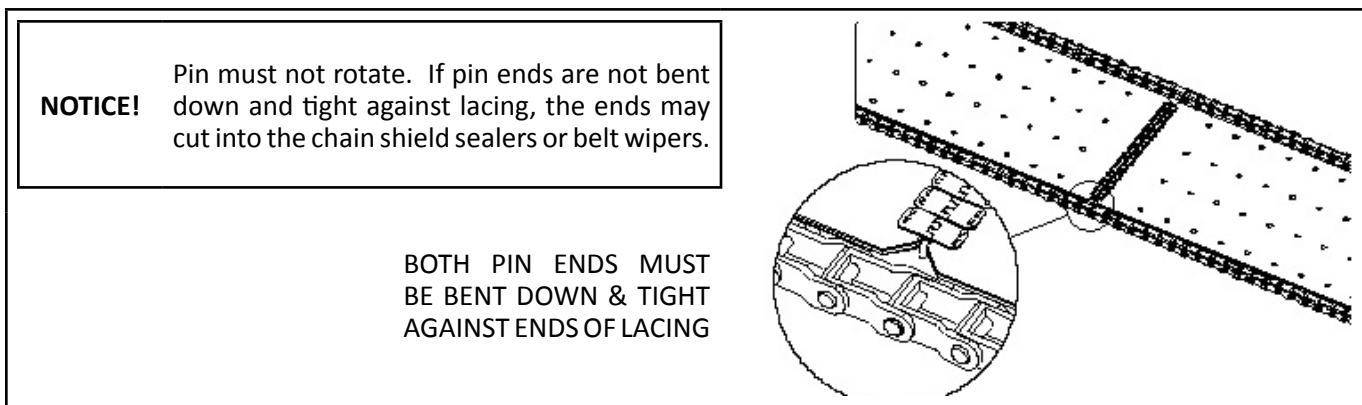

Figure 3 - Conveyor Belt Pin Installation
- Make sure belt connecting pin is positioned correctly as shown in Figure 3.